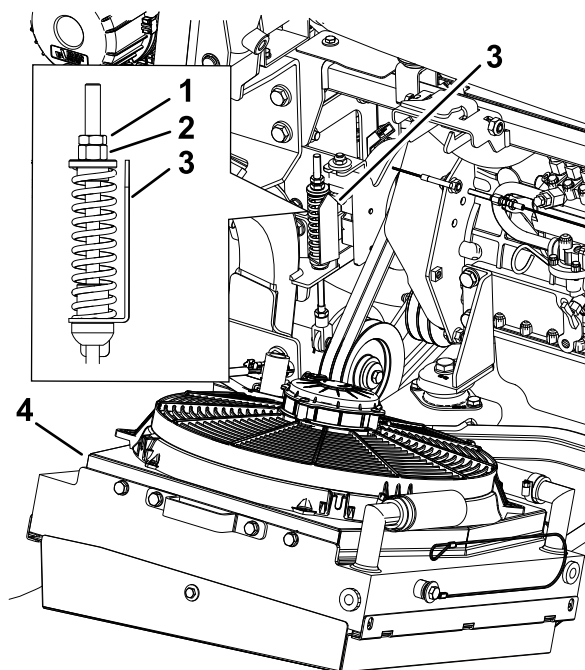

Figure 78
5. If needed, rotate the nut for the idler-pulley tensioner until the tension-indicator arrow aligns with the outer surface of the washer (Figure 78).
1. Align the be PTO belts over the pulleys (Figure 78).
8. Move the idler pulley upward and remove the belts from the machine (Figure 78).